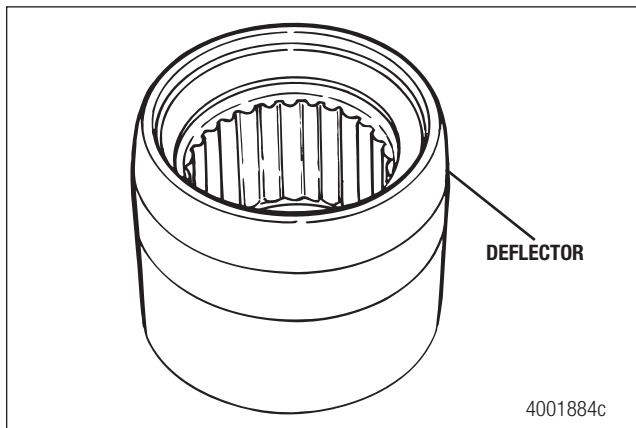

Figure 5.53
- Verify that the plastic deflectors are attached to the round bushings. Figure 5.53.